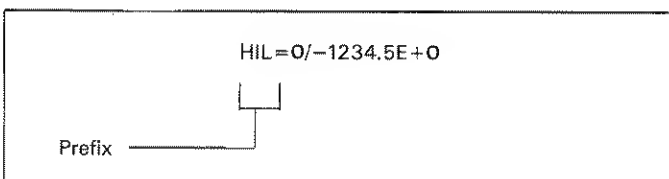

Figure 4-7. U4 High Limit
The U4 command allows access to the current setting of the HI-limit value. The format for the HI-limit value that is sent over the bus is shown in Figure 4-7. The value will be either in °C or °F depending on the current O (Output) mode. The HI-limit value can only be changed by the HI-limit command (H).